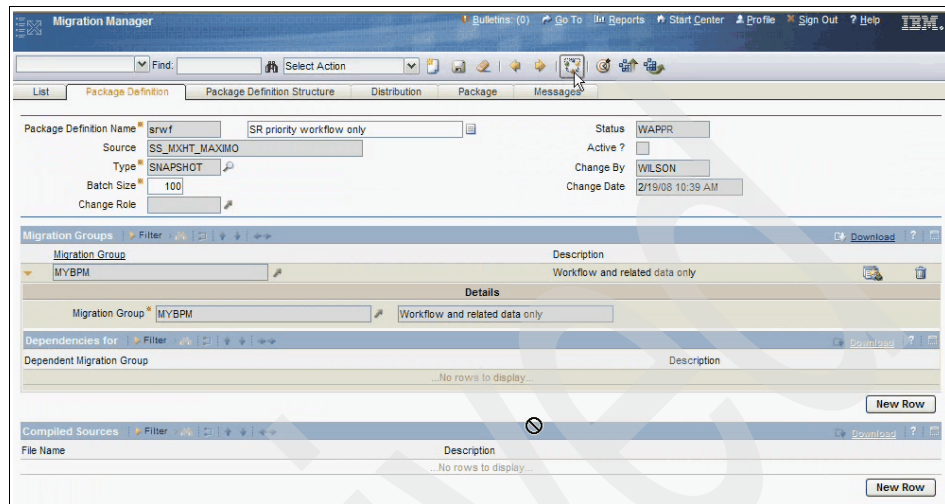

Figure 8-26 Change package definition status
10. Click the **Change Status** button in the button bar in your window, as shown in Figure 8-26. You can also use the Change Status action from the Select Action menu.